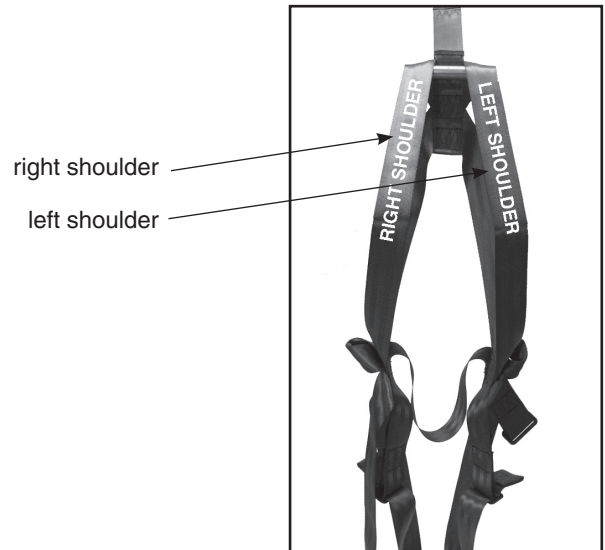

FIGURE 2
3. Now holding the harness, locate the (2) shoulder straps labeled "LEFT SHOULDER" and "RIGHT SHOULDER", and spread them apart to make sure there are no twists or tangles in the harness. **SEE FIGURE 2.**